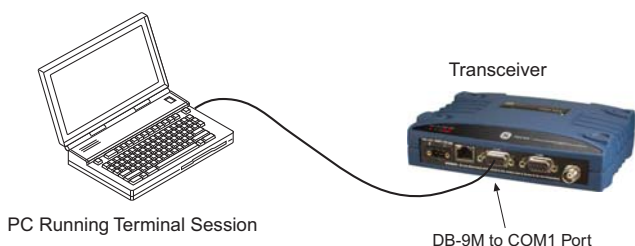

Figure 5. Setup for PC Configuration
5. **Set the radio's configuration.** Connect a PC to the radio's COM1 port as shown in Figure 5. A straight-thru cable may be used for this connection.